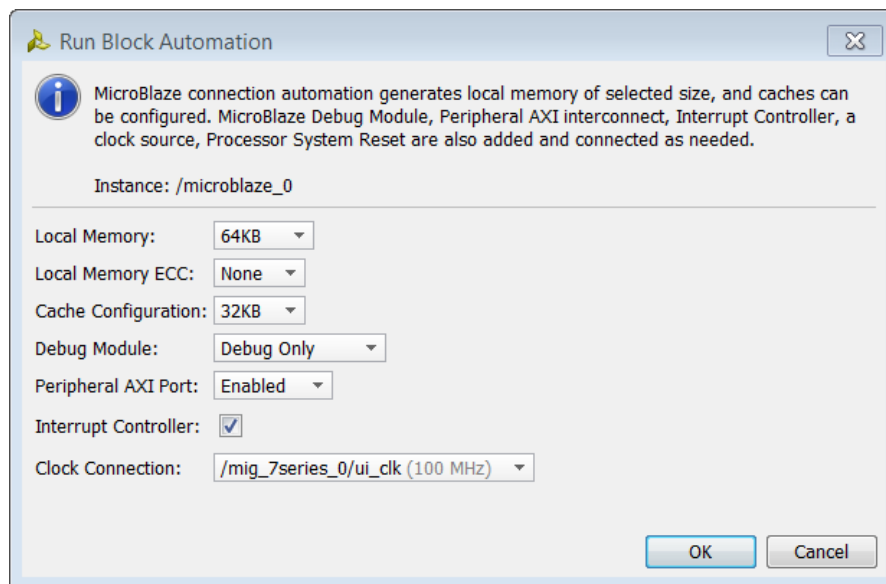

Figure 106: Run Block Automation Dialog Box
2. The Run Block Automation dialog box opens (FIGURE 106).